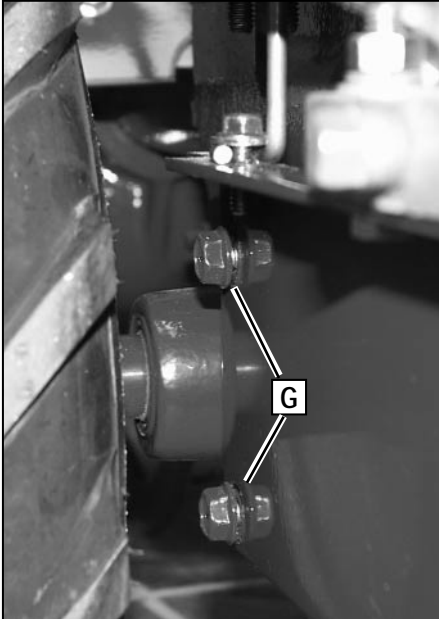

Figure 5-17: Loosen screws in right side frame to create clearance between transmission pulley and frame.
the right side of the transmission pulley and the tiller frame, try loosening the two right side frame mounting screws (G, Figure 5-17) two or three full turns. This should create the needed clearance between the frame and the pulley.
3. If the two right side frame screws (G, Figure 5-17) were loosened to remove the belt, then retighten both screws securely.